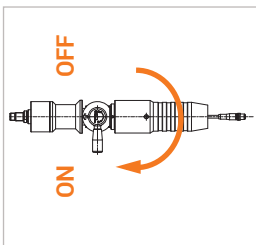

Figure 14
- ▶ Turn the actuation lever (Pos. 3) on the fueling nozzle through 180° to the ON position (Figure 14). **If the actuation lever cannot be turned easily**, remove the WEH® Service receptacle and then reinsert it.